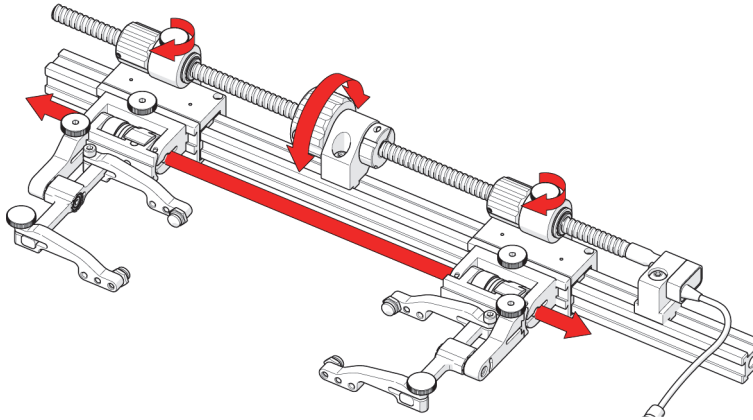

Figure 3-16 Simultaneous slider positioning
3. Ensure the slider knobs are tight and rotate the main knob to position both sliders simultaneously (see Figure 3-16 on page 90).